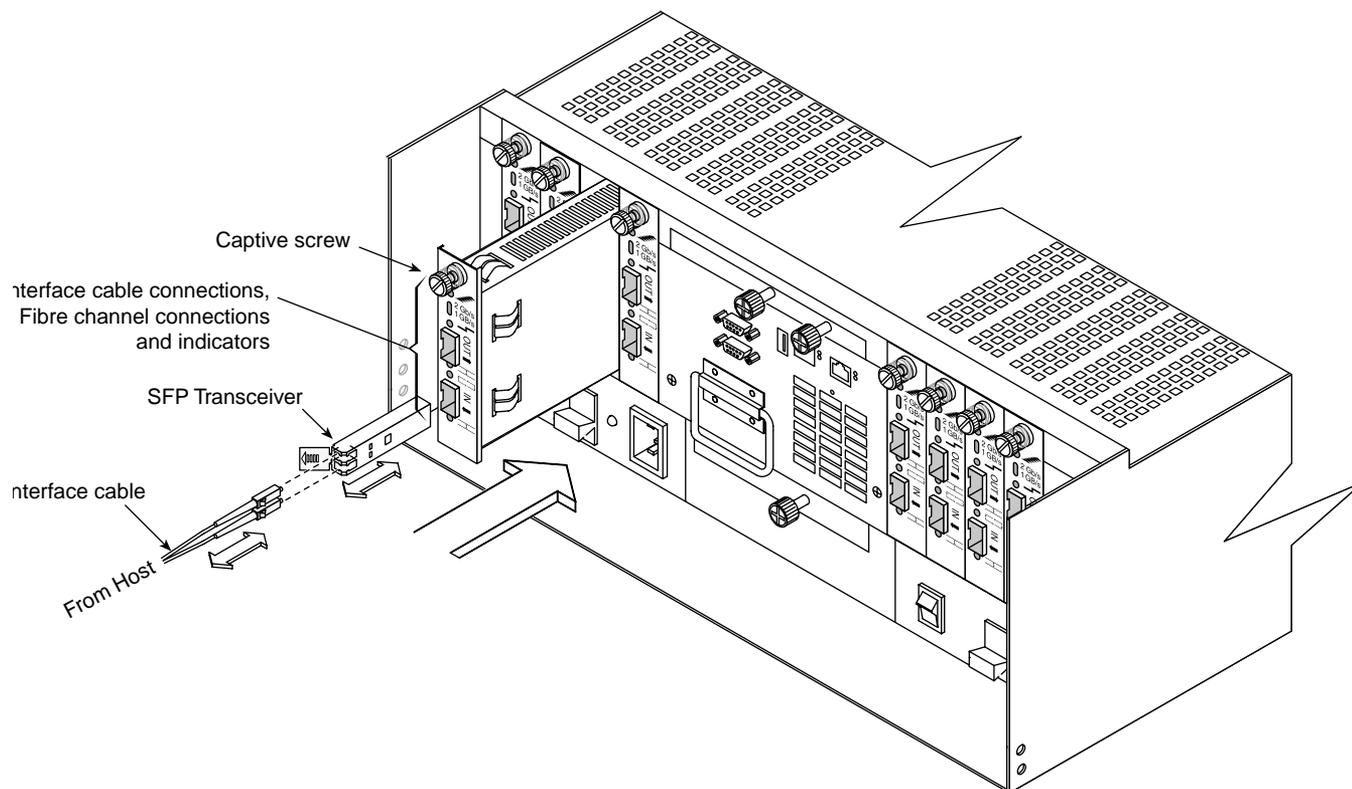

Figure 4-14 Removing and Installing an SFP transceiver
3. Remove the interface cables from the failed SFP transceiver (Figure 4-14).
4. Remove the failed SFP transceiver from its minihub slot (Figure 4-14).